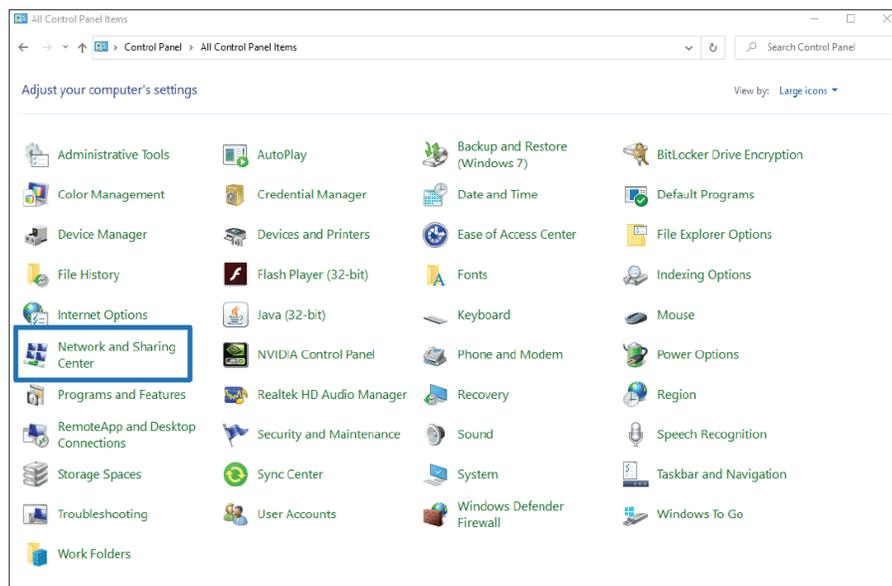

Figure 2
2. The Control Panel may be set to View by: "Category" in the upper right. Change this to View by "Small" or "Large icons" and then select "Network and Sharing Center". (Figure 2)